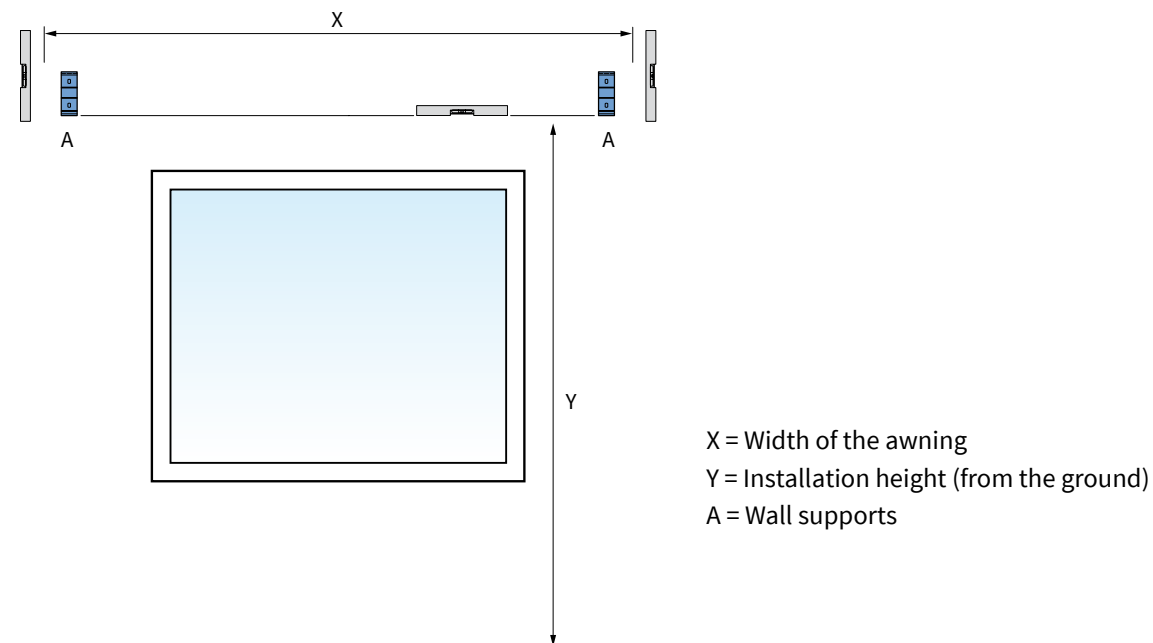
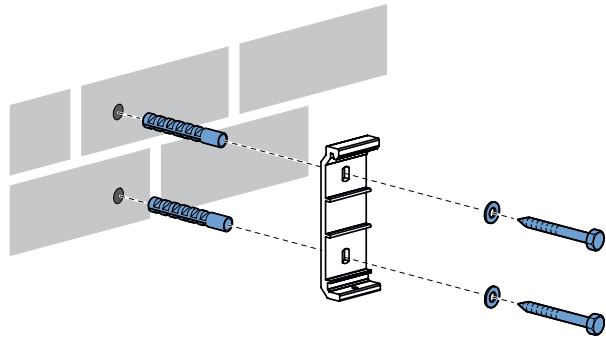

fig. 1.2 Placement of the wall supports
fig. 1.3 Installation of the wall support
Mark the drill holes of the wall supports to the wall (A). They need to be aligned level, both horizontal and vertical. See figure 1.2. Make sure that both the installation holes for the wall supports are in the middle of the stone. See figure 1.3. If necessary, use an align-cord.
Drill the installation holes. Use matching, high quality plugs and bolts (standard A2 or for a sea climate A4). Install the awning to the wall and fixate the bolts. See figure 1.3.